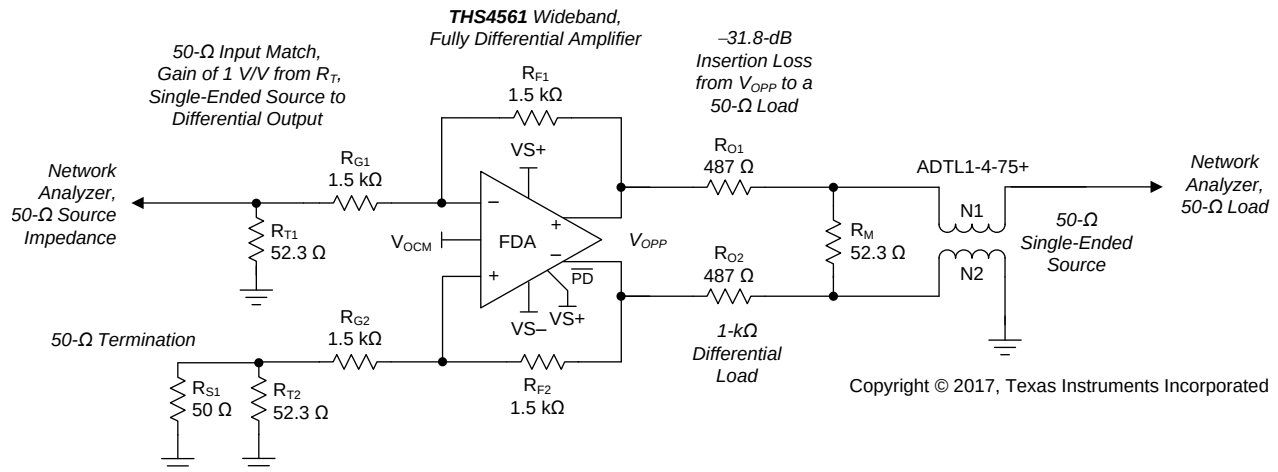

Figure 1. Single-Ended Source to a Differential Gain of a 1-V/V Test Circuit
The characterization circuits are typically operated with a single-ended, matched, 50-Ω, input termination to a differential output at the FDA output pins because most lab equipment is single-ended. The FDA differential output is then translated back to single-ended through a variety of baluns (or transformers) depending on the test and frequency range. DC-coupled step response testing uses two 50-Ω scope inputs with trace math. Single-supply operation is most common in end equipment designs. However, using split balanced supplies allows simple ground referenced testing without adding further blocking capacitors in the signal path beyond those capacitors already within the test equipment. The starting point for any single-ended input to differential output measurements (such as any of the frequency response curves) is shown in Figure 1.
Most characterization plots fix the R_F ($R_{F1} = R_{F2}$) value at 1.5 kΩ, as shown in Figure 1. This element value is flexible in application, but 1.5 kΩ provides a good compromise for the parasitic issues linked to this value, specifically:
- Added output loading: The FDA functions similarly to an inverting op amp design with feedback resistors appearing as an added load across the outputs (the approximate total differential load in Figure 1 is 1.5 kΩ || 1 kΩ = 857 Ω). The 1.5-kΩ value reduces the power dissipated in the feedback networks.
The frequency domain characterization curves start with the selections of Figure 1. Some of the features in this test circuit include:
- Translating from a 1-k Ω differential load to a 50- Ω environment introduces considerable insertion loss in the measurements (–31.8 dB in Figure 1). The measurement path insertion loss normalizes when reporting the frequency response curves to show the gain response to the FDA output pins.
Starting from the test circuit of Figure 1, various elements are modified to show the effect of these elements over a range of design targets, specifically:
- Output loading of both resistive and capacitive load testing. Changing to lower resistive loads is accomplished by adding parallel resistors across the output pins in Figure 1. Changing to capacitive loads adds series output resistors to a differential capacitance before the 1-k Ω sense path of Figure 1.